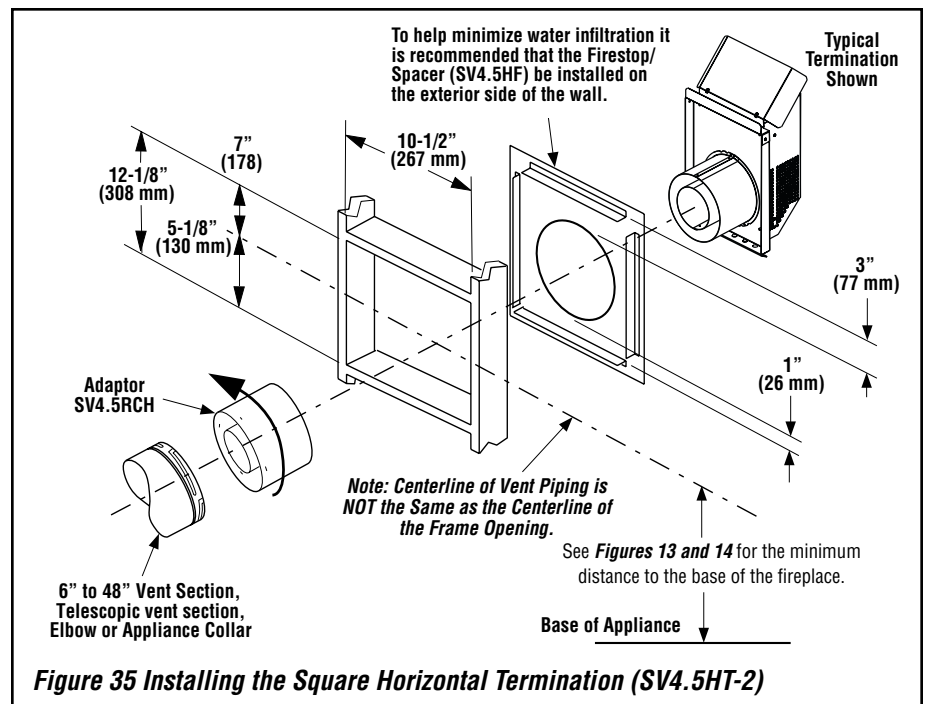

Figure 35 Installing the Square Horizontal Termination (SV4.5HT-2)
K. Attach termination adaptor - Attach the adaptor (adaptor - SV4.5RCH - provided with the termination) to the vent section or telescoping collar as shown in **Figure 35** in the same manner as any SV4.5 vent component (refer to **Step E**).
L. Install Firestop/Spacer at exterior wall - When using the **square** termination, install SV4.5HF (SecureVent®), SF4.5HF (SecureFlex®) Firestop/Spacer over the opening at the exterior side of the framing, long side up, with the 3" spacer clearance at the top as shown in **Figure 35**, and nail into place.